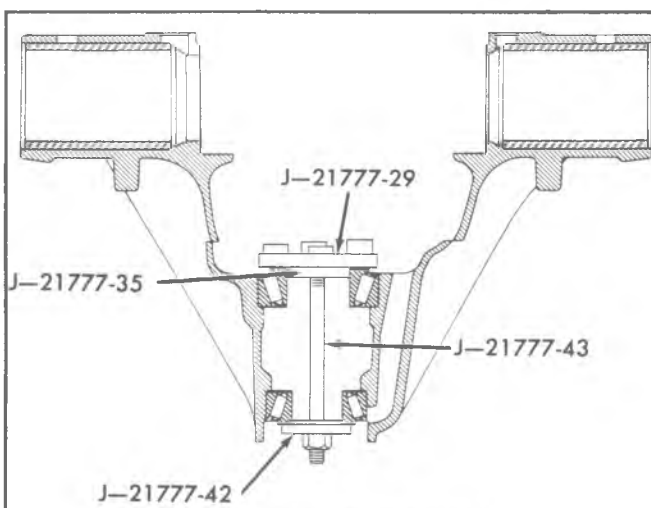

Fig. 18A—Gauge Plate Installed
3. With cloverleaf gauge plate J-21777-29 mounted on preload stud J-21777-43, insert stud through rear bearing and pilot J-21777-35, and through front bearing and pilot J-21777-42. Install the hex nut until snug and rotate the bearings to make sure they are properly seated. See figure 18A for illustration of proper positioning.